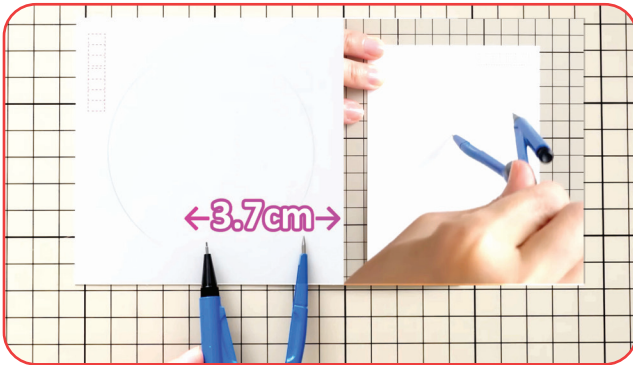

Figure 1.4: Draw another circle of 3.7 cm.
- With the same center point, draw another circle of radius 3.7 cm (concentric circle) (Fig. 1.4).